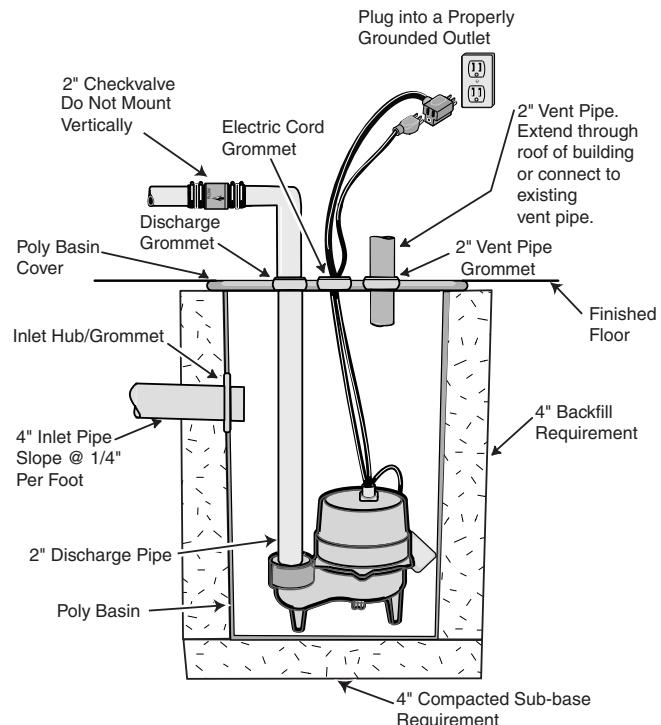

Figure 1 – Typical Installation
- Dig the hole for the sewage basin and the sub-base. The hole must be deep enough so the finished floor is flush with the top of the basin. Refer to Figure 1, below.
12. Install a 2" check valve in the horizontal portion of the discharge pipe. See Figure 1. Make certain, the flow indicating arrow, points away from the pump. This check valve will keep the water from running back into the basin when the pump is not running.